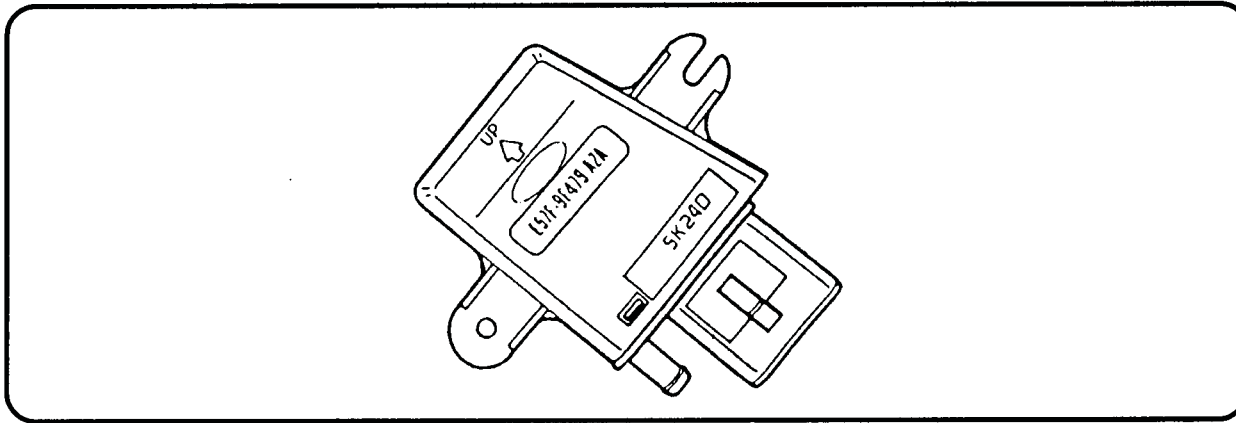

Figure 32
**Description:** On gasoline engines, the Manifold Absolute Pressure sensor senses atmospheric pressure to produce an electrical signal. The frequency of this signal varies with intake manifold pressure. The MAP sensor sends this signal to the processor assembly. The processor assembly uses this signal to determine altitude. The processor then adjusts the E4OD shift schedule for the altitude (Figure 32).